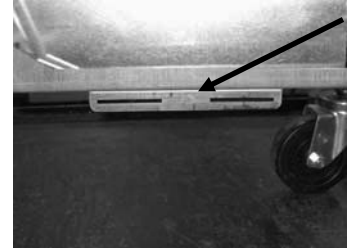

Figure 1: Attach alignment bracket to bottom of ATO box brace.
Bulk oil systems have large oil storage tanks, typically located in the rear of the restaurant, that are connected to a rear manifold on the fryer. Waste oil is pumped from the fryer, via the fitting located on the bottom, to the disposal tanks and fresh oil is pumped from the tanks, thru the fitting located on the top, to the fryer (see Figure 1). Remove the plate exposing the RTI connection and connect the RTI connection to the fryer (see Figure 2). Set the fryer to bulk through the setup mode and set all computers to bulk oil. See Section 4.9 on page 4-9. **It is imperative that the fryer system be completely power cycled after changing setup from JIB to Bulk.**
2. Attach alignment bracket to bottom of ATO box brace with provided nuts. See Figure 1.